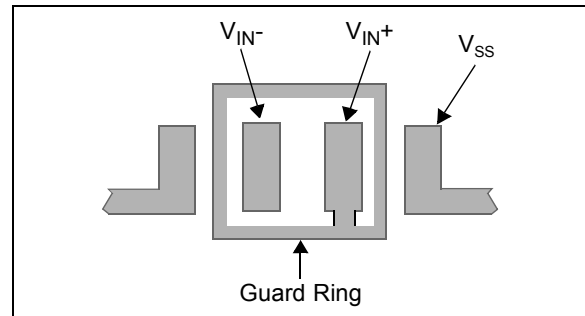

FIGURE 3-5: Example Guard Ring Layout for Inverting Gain.
The easiest way to reduce surface leakage is to use a guard ring around sensitive pins (or traces). The guard ring is biased at the same voltage as the sensitive pin. An example of this type of layout is shown in Figure 3-5.
1. Inverting (Figure 3-5) and Transimpedance Gain Amplifiers (convert current to voltage, such as photo detectors):